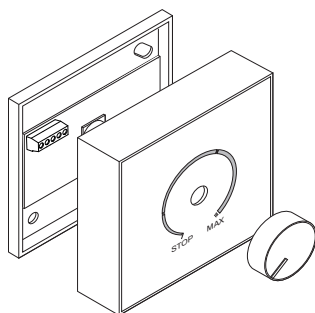

Fig. 1
2. Separate the device from the assembly plate (fig. 1).
1. Remove the button body from the assembly plate (fig. 1).